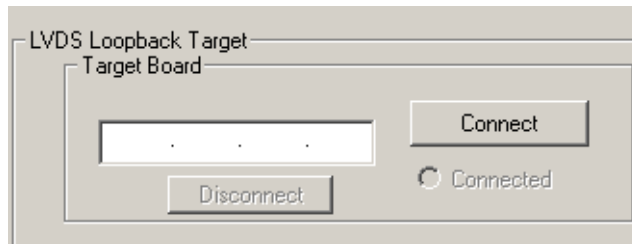

Figure 2-19. LVDS Loopback Target Box
3. **Connect the target board (a second Axcelerator Development System).** Specify the IP address of the target board in the LVDS Loopback Target block of the LVDS Board-Board Loopback Test window and click *Connect*. See Figure 2-19.